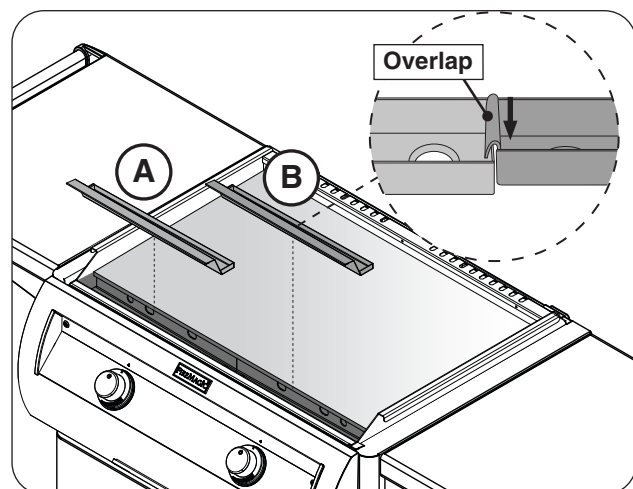

Fig. 19-2 Install drip collector trough
1. Place the left piece inside the griddle drip reservoir and completely slide it to the left side (see Fig. 19-2,A).
2. Place the right piece and ensure it overlaps the left tray as shown in Fig. 19-2, B.